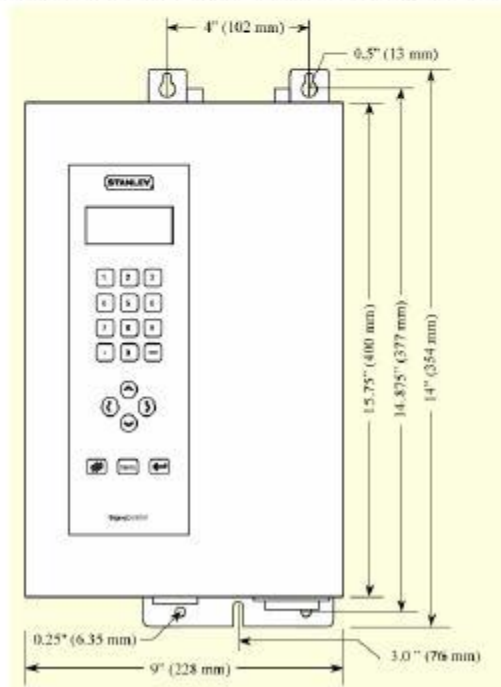

Figure 1-16 Gamma Installation Dimensions
1. Find a suitable place for the Gamma. If mounting as a stand-alone unit, skip to step six (for dimensions and screw holes, see Figure 1-16).